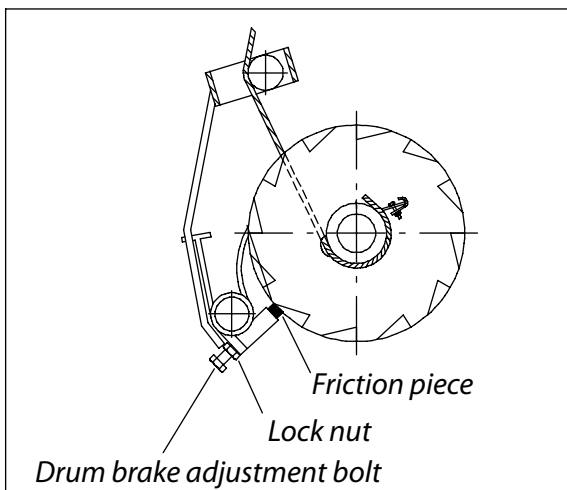

Fig. 18. Drum brake adjustment
- To increase the braking effect tighten the adjustment bolt. See fig 18. To decrease the braking effect loosen the adjustment bolt.